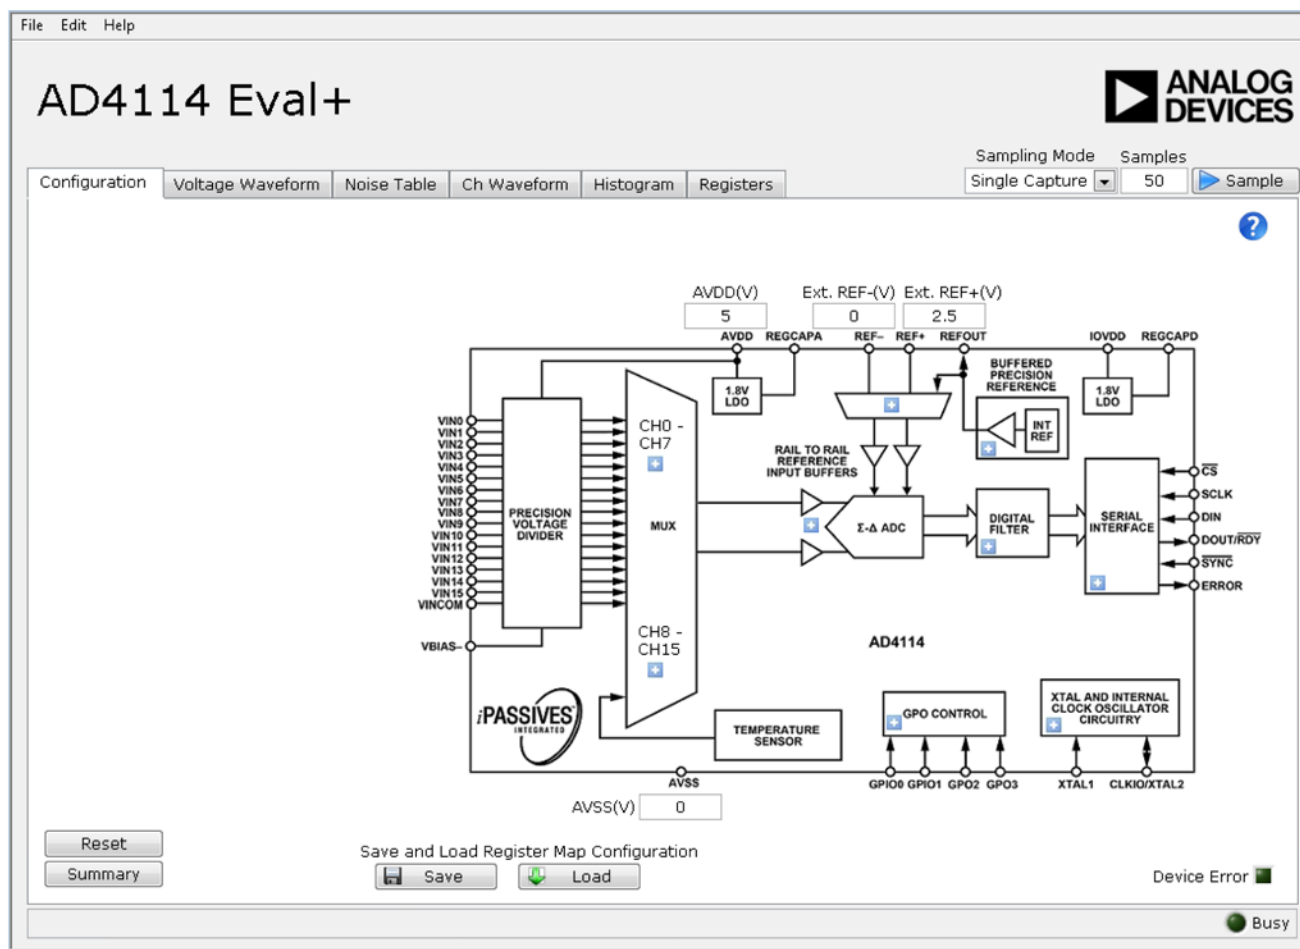

Figure 17. Configuration Tab in Advanced Mode
4. Advanced mode can be used when more configurability of the inputs is required. In this mode, the input GUI is not available. However, the user has access to the **Registers** tab, which provides full control of the **AD4114** register map (see Figure 17). When operating in advanced mode, the user must consult the **AD4114** data sheet.